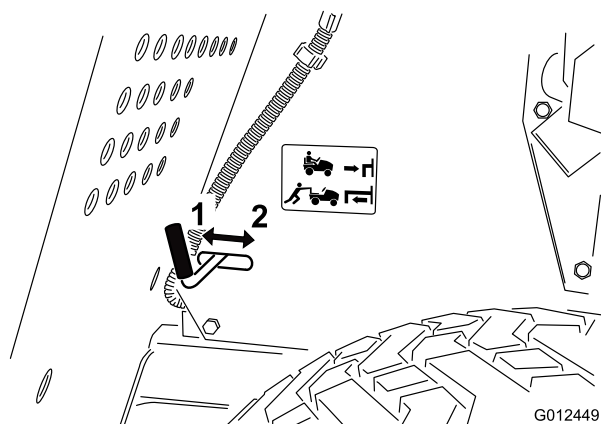

Figure 14
7. Pull the drive control (located at the rear of the machine) out to the Push position (Figure 14).
2. Push the drive control in to the Operate position (Figure 14) to engage the drive system.